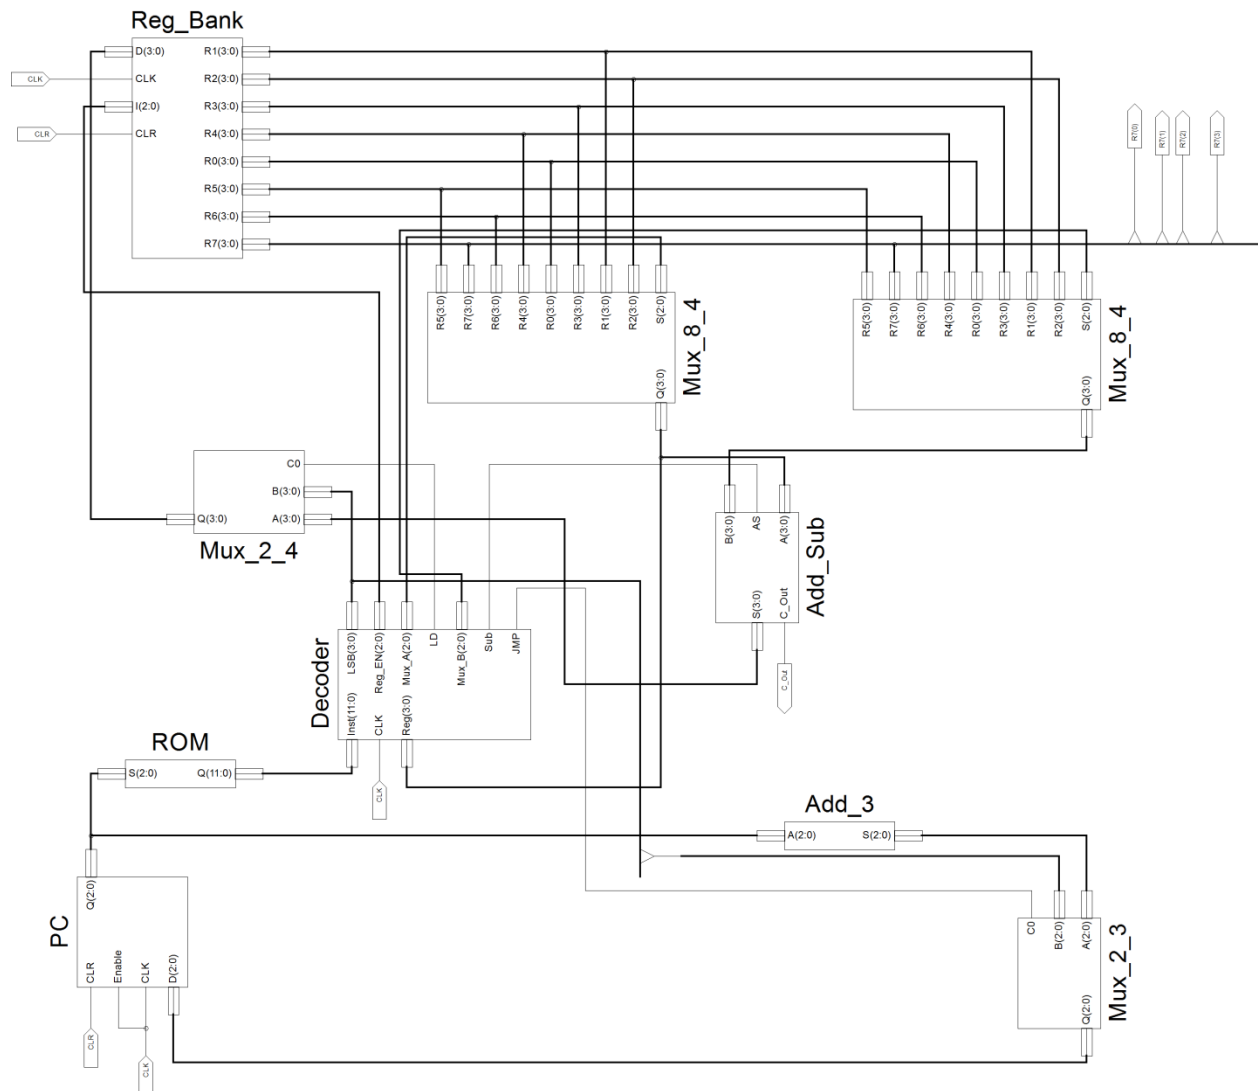

Figure 2 – A possible design of the nanoprocessor.
- Step 3: Build the top-level design. Your design may look somewhat similar to Fig. 2.